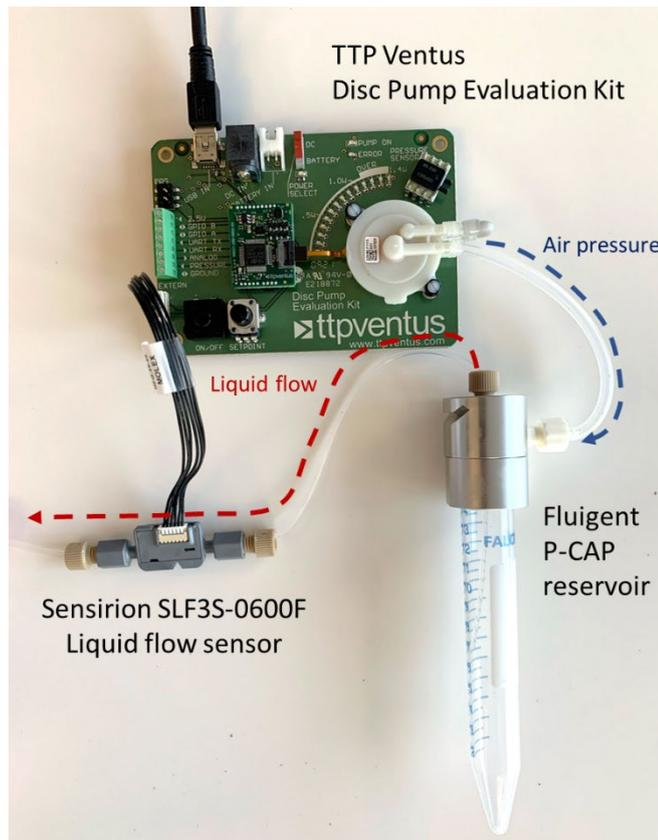
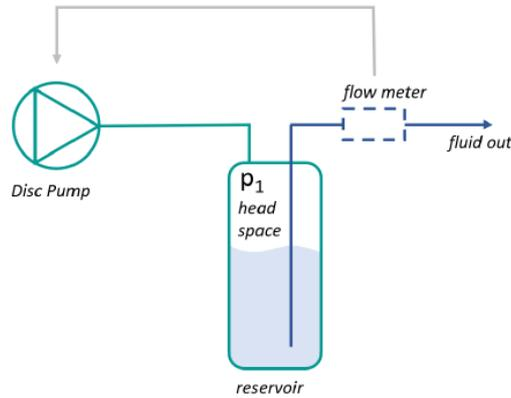

Figure 3: System components
Figure 4: System schematic
LEE Ventus only supplies the Disc Pump Evaluation Kit shown in Figure 3. Please order the other components separately from their respective suppliers.
- Connect the components together per the schematic (Figure 4) and system photograph (Figure 3).